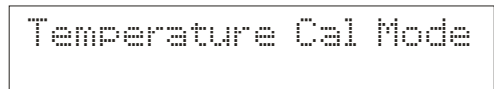
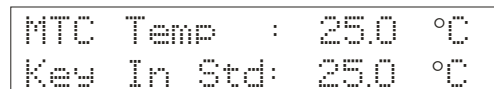

Figure 32
Figure 33
2. Press **>/CAL** to enter pH/Temp calibration mode. The display will flash *Cal Mode Activated, Please wait...* Press **>/CAL** key again to enter the temperature calibration mode. The display will flash *Temperature Cal Mode*. (Please remove this gap. The copy should follow as one.) See **Figure 32**. The upper display then reads *MTC Temp: 25.0°C* and the lower display reads *Key In Std: 25.0°C*. See **Figure 33**.